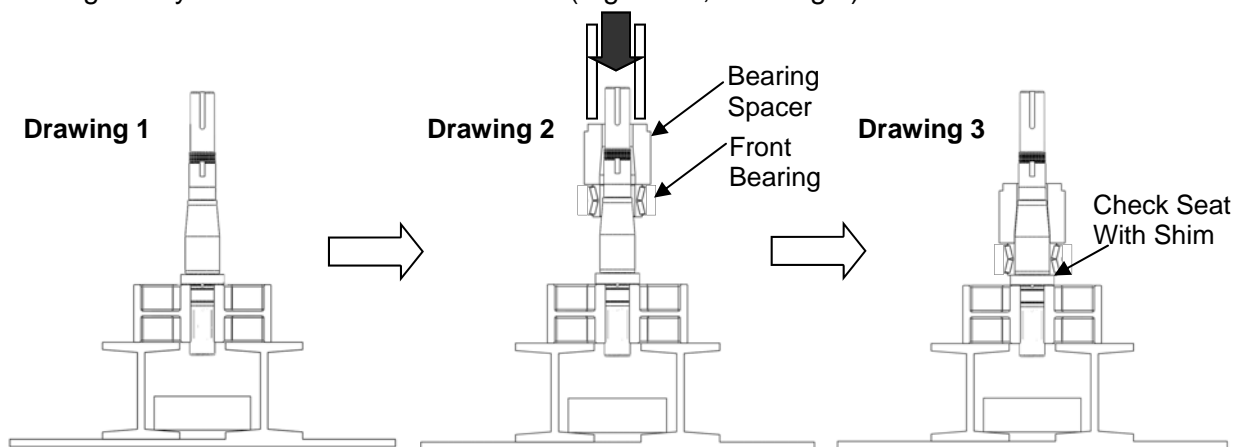

Figure 51: Pressing Front Bearing onto Shaft
1) Clean all reusable parts prior to reassembly. Apply a light coat of lubricant on the shaft area where the front bearing will sit. Position the shaft upright in the press with the rotor end facing down (Figure 51, Drawing 1). Open the new front bearing assembly and be sure not to interchange any parts. All bearings are manufactured as sets and assembled to have a precise overall length. Place the front bearing over the shaft along with the bearing spacer (Figure 51, Drawing 2). Make sure the bearing and spacer are aligned before pressing them on. Reference Table 5 for the required force (in tons) needed to press the bearings on to the shafts. Using a sleeve that rests on the bearing spacer and rides over the shaft, press the bearing on until it seats against the shaft shoulder. A shim can be used to ensure that the bearing is fully rested on the shaft shoulder (Figure 51, Drawing 3).